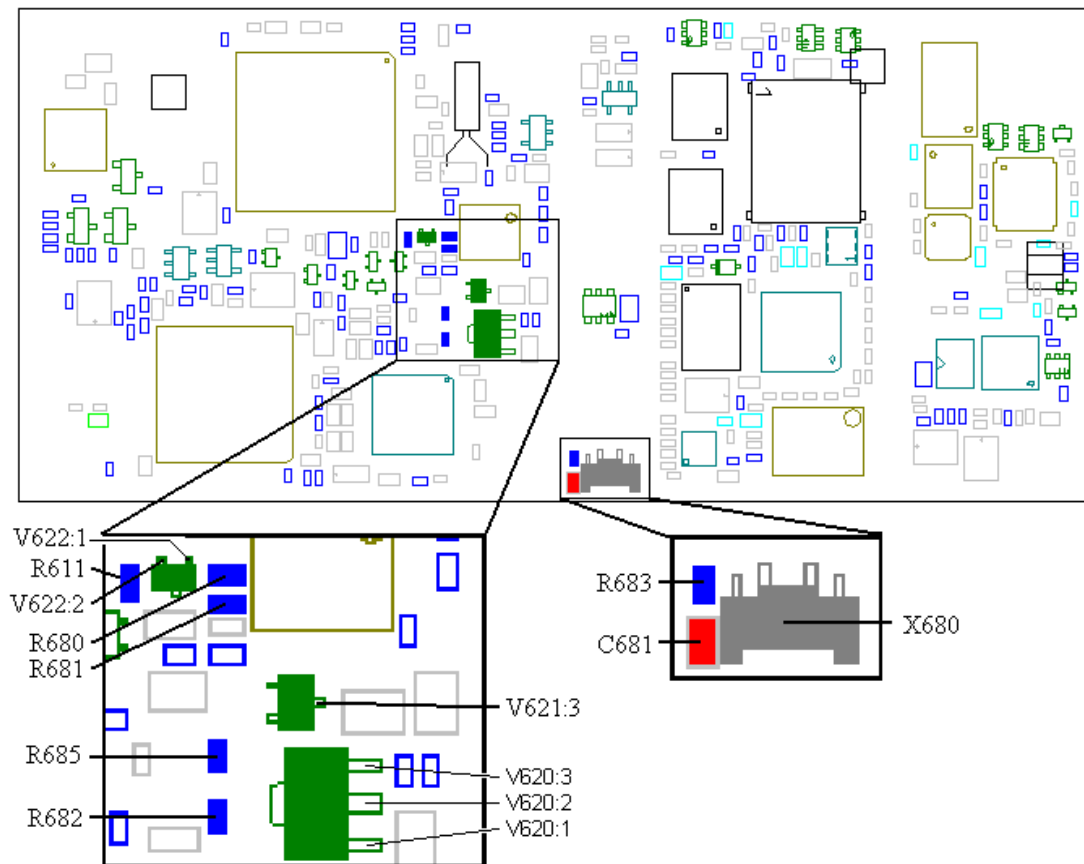

Fig. 9.5
that the connector is properly attached to X680 (fig. 9.5, class A).
Measure the voltage at pin 3 of V620 (~4.8V, fig. 9.5).
- If the voltage is missing, replace R685 (class A, fig. 9.5).
Also measure the voltage at pin 2 of V622 (~3.2 V, fig. 9.5).
- If the vibrator doesn't start, check the solderings of X680 (fig. 9.5) and try with a vibrator that you know work.
* If the resistance is more than 10 ohms, measure the resistance of R611 (0 ohms, class A, fig. 9.5).
- * If it's less than 4.5V, measure the resistance of R681 (~1.5 kohms, fig. 9.5).
- * If it's more than 4.5V, replace V622, V621, R680 and R681 (all of class A and in fig. 9.5).